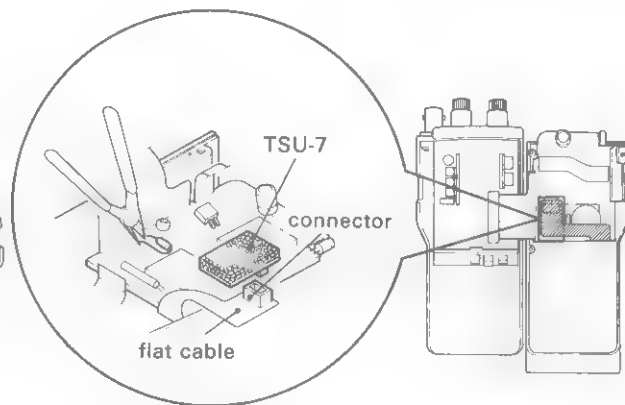
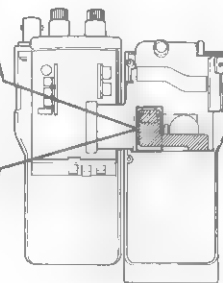

Fig. 4
Fig. 5
7. Remove the resistor using a pair of nippers. Plug the connector into the TSU-7, and attach the TSU-7 to the transceiver, as shown in fig.4, fig.5.